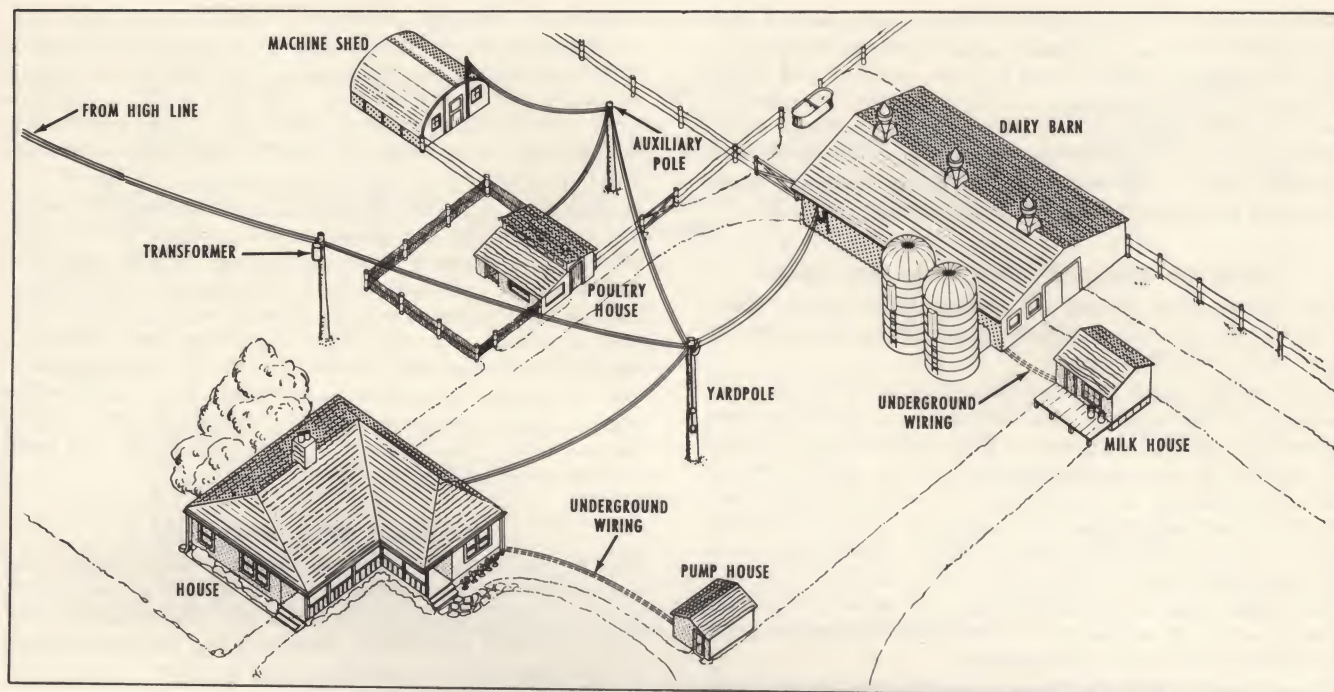
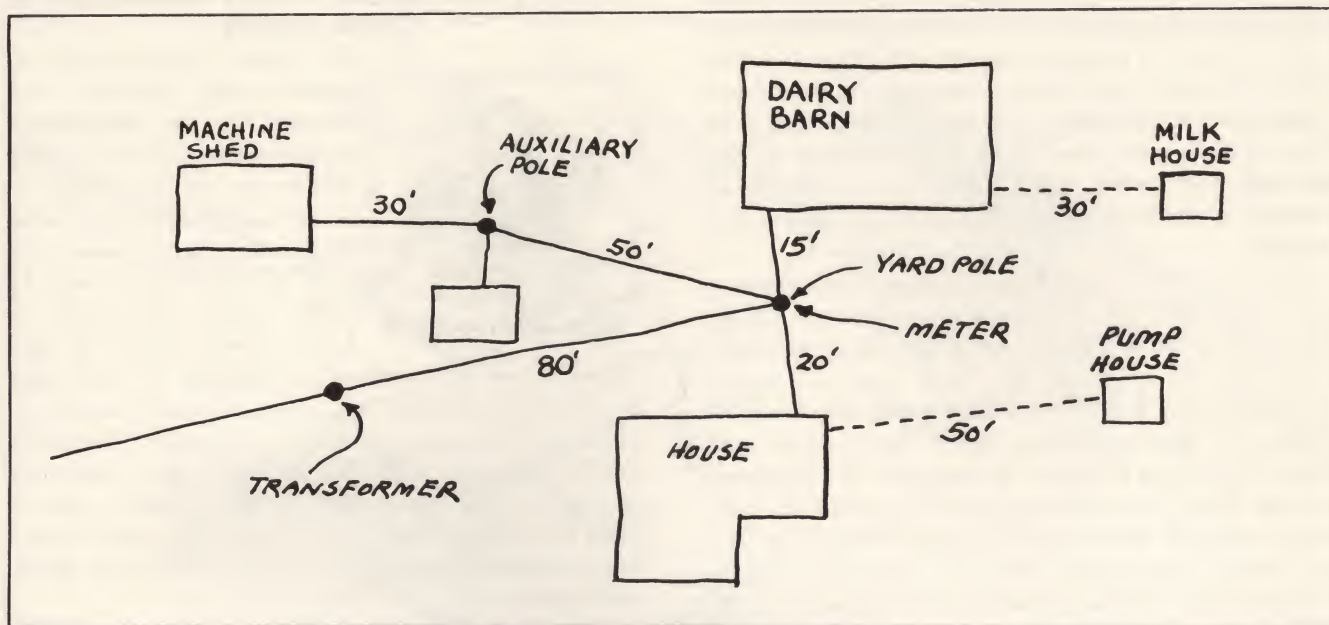

FIG. 88—TYPICAL EXTERIOR FARM WIRING
FIG. 91—DIAGRAM OF EXTERIOR FARM WIRING SYSTEM
**DISTRIBUTING ELECTRICITY ON A FARM.** Fig. 88 illustrates how current for a typical farm is transmitted between the home and various outbuildings. Usually, the utility company brings its power line (sometimes called the high line) to a point where it is connected to a distribution transformer from which the service wires are tapped. From this point, secondary lines conduct the current to a yardpole (or meter pole). Here the incoming lines are led through the meter which measures the amount of current consumed in kilowatt hours. Although a meter can be mounted on the outside or inside of a building, the modern farm practice is to place it on a yardpole which usually is more centrally located. From the meter, the current is conducted to a weatherproof, fused or circuit breaker type disconnect switch (Fig. 21-D).
**EXTERIOR WIRING.** Fig. 91 shows a diagram of the farm building arrangement illustrated in Fig. 88. Show dimensions of buildings to be wired, the purpose for which each is being used and the distances between buildings. The sketch will be helpful in deciding how and where exterior wires will run and will aid the utility company in determining the location for the yardpole. Lines from pole to all farm buildings with 230 volt equipment should have 3 wires; service lines to small buildings are normally two wires tapped from a nearby large building served by 3 wires. Table III shows that as the length of circuits is increased, heavier wire must be used, due to voltage drop. In deciding on wire size needed for runs to each building, allow extra capacity for future loads. In some areas, wire must be strong enough, considering length of span, to withstand wind and the weight of ice. Where these conditions prevail, consult the utility company concerning wire sizes, or consider placing wires underground. Tables are on Page 38.
**PREWIRE POLE BEFORE RAISING.** The yardpole (or meter pole) functions as the power distribution center to farm buildings. (See Fig. 88.) The utility company usually brings wires to the farm as far as the yardpole where the meter and a weather-proof disconnect switch are installed. This permits power for the entire farm to be shut off from one location.